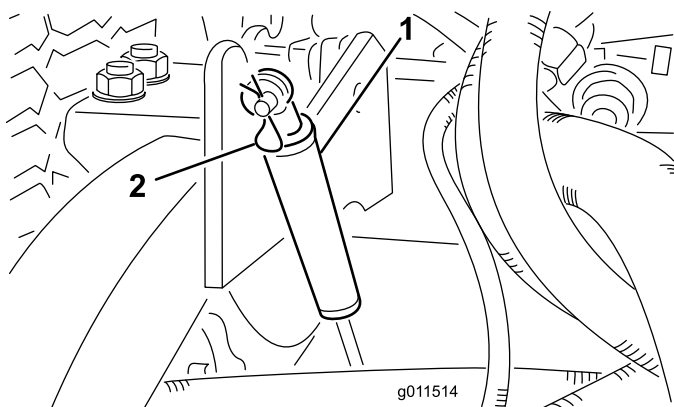

Figure 75
2. Remove the hairpin cotter securing the dampers to lift arms (Figure 75).